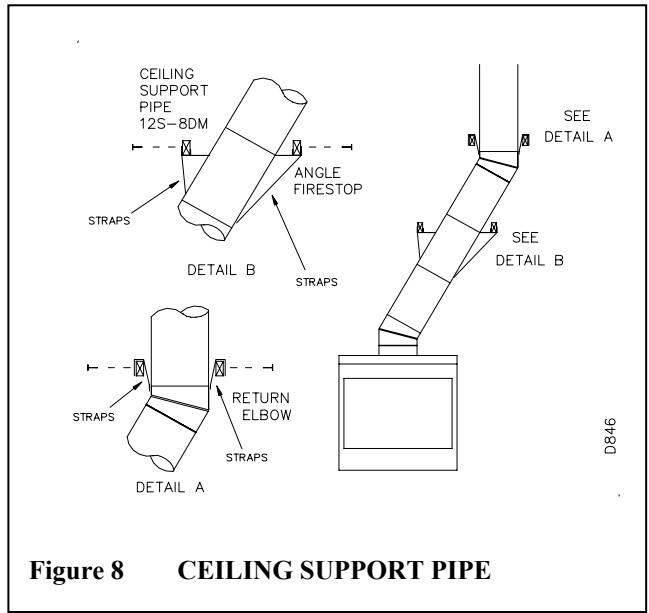

Figure 8 CEILING SUPPORT PIPE
1. To achieve desired offset, you may install combinations of 12”, 18”, 24”, 36” and 48” length of double wall pipe (SEE SINGLE OFFSET CHART AND FIGURE 8).
2. Chimney weight above offset rests on return elbow. Straps must be securely nailed to rafters or joists (see figure 8, details a & b).